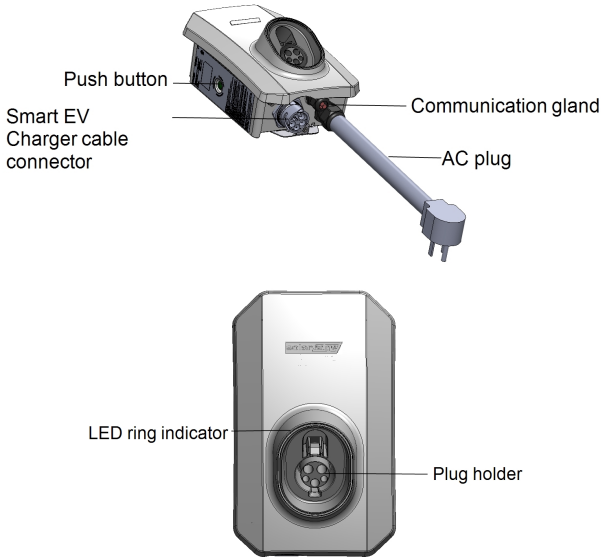

Figure 2: Smart EV Charger connectors and interfaces
2. Press the Smart EV Charger pushbutton (*Figure 2*) for 5 seconds to establish a local Wi-Fi connection.